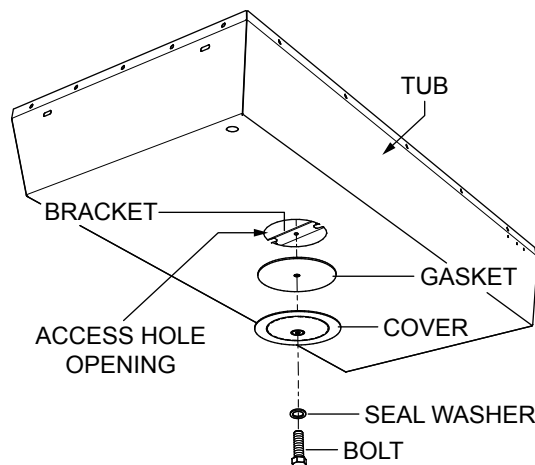

Figure 27. Tub Access Cover Removal
2. To drain the engine oil the tub access cover (Figure 27) must be removed.